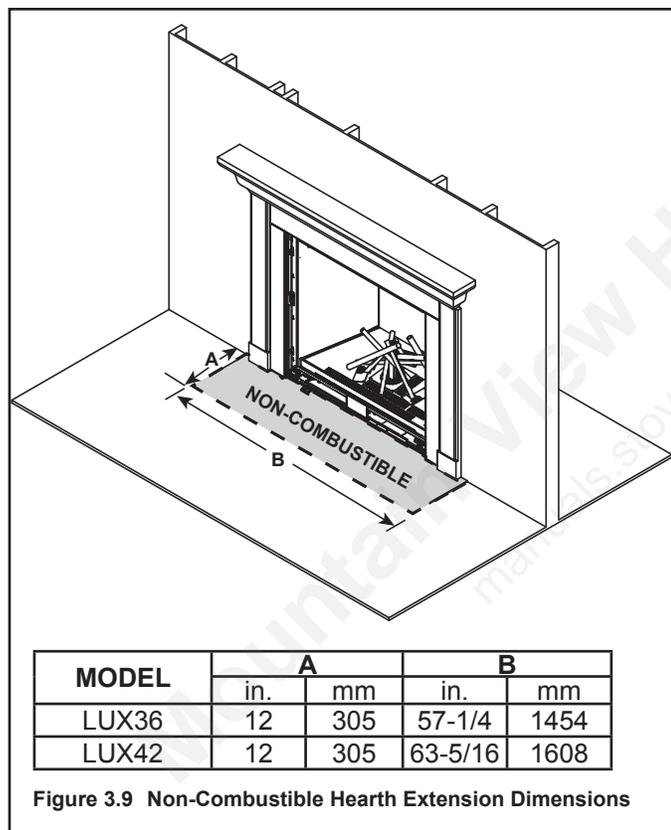
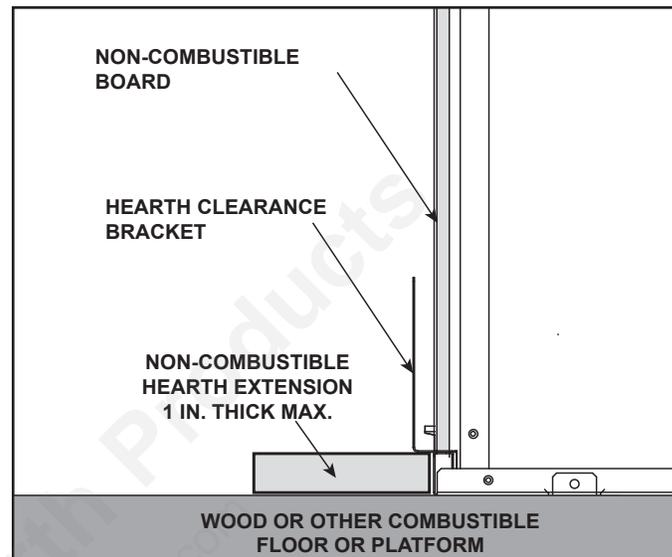

Figure 3.9 Non-Combustible Hearth Extension Dimensions
Figure 3.10 Appliance Installed on Combustible Surface
- Hearth extension must be non-combustible and serves to protect combustible floors in front of appliance. See Figure 3.9 and Figure 3.10.
- The base of the fireplace may sit on a combustible surface. See Figure 3.9. The area in front of the appliance must be protected by a non-combustible hearth extension, unless the appliance is raised a minimum of three inches above the combustible floor or hearth. See Figure 3.9 and Figure 3.10.
- If a hearth greater than one inch in thickness is desired, the appliance must be raised by the equivalent height to ensure that the hearth extension does not interfere with the installation of the glass assembly. See Figure 3.9.